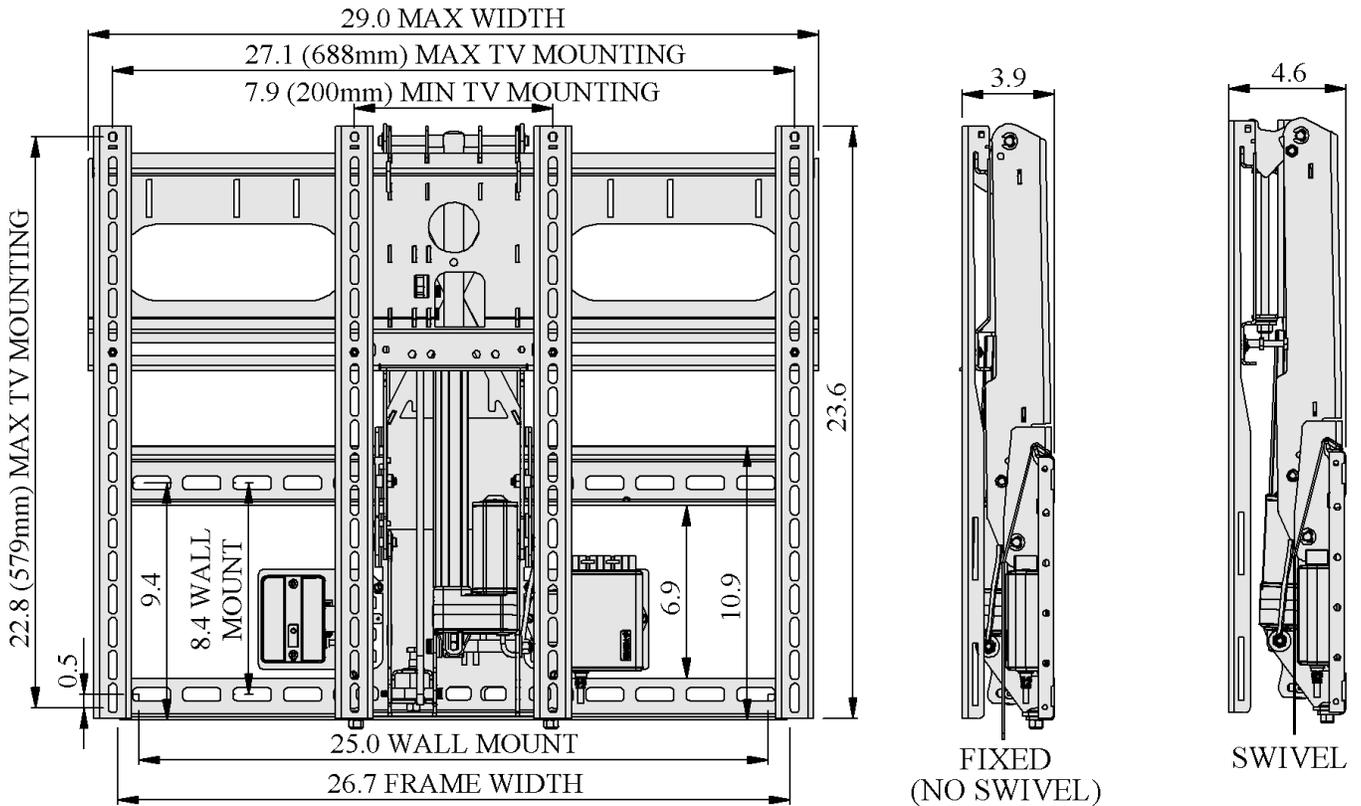

Figure 1, Mount Overall Size, Television Mounting Hole Pattern Range, Wall Mounting Hole Pattern Range
- **Note for smaller televisions;** the mount may be wider or taller than the television. If this is the case then the mount may be visible in the top position. See Figure 1
- Allowable television mounting pattern: 7.9in (200mm) to 27.1in (688mm) wide, up to 22.8in (579mm) high. Works with all VESA patterns in that range, See Figure 1 with Frame, Figure 5 without Frame
- Product Dimensions Non-Swivel: 29.0 x 23.6 x 3.9 inches. Swivel: 29.0 x 23.6 x 4.6 inches. See Figure 1
- Figure 1 is the overview with the Frame
5. Figure 1 and Figure 5 show important dimensions of the mount.